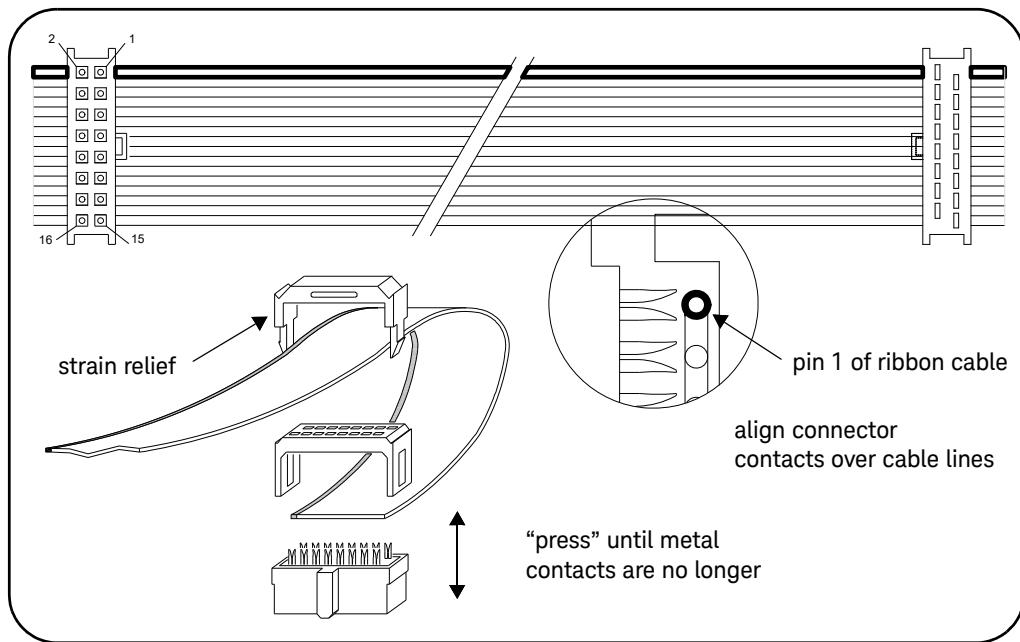

Figure 1-7 Y1159A 16-pin to 16-pin Connector Orientation and Cable Routing.
- 2 Position the ribbon cable connectors as shown in Figure 1-7. Route the cable **through** the connectors, noting the location of pin 1 on the cable. By convention, pin 1 is indicated in red (the dark line in the drawing).
- 6 Fasten the strain relief clamps over the cable and into the ribbon cable connectors as shown in Figure 1-7. Remove any excess cable after the clamps are in place.